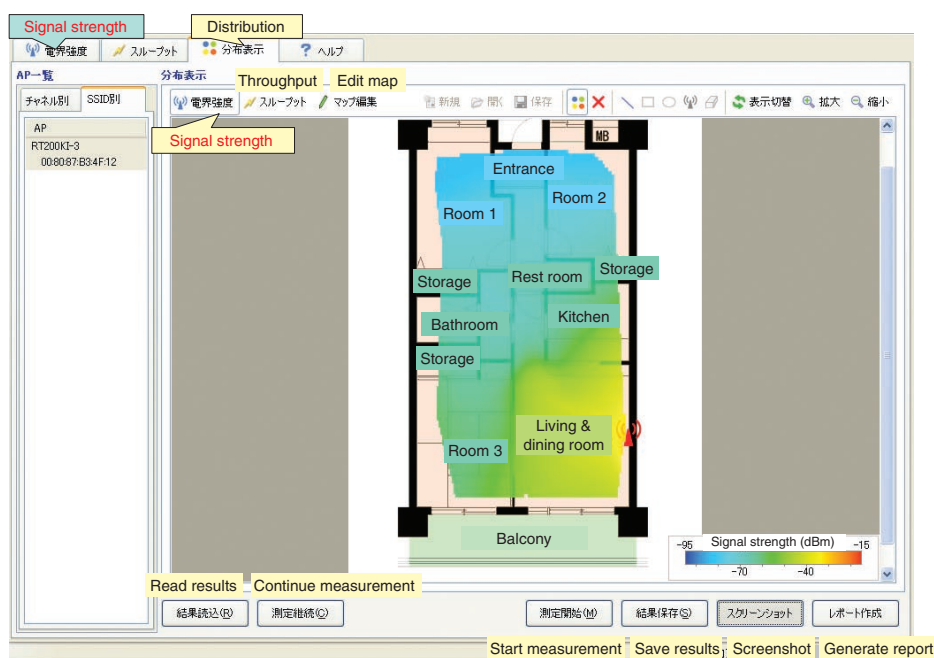

Fig. 3. Distribution-chart measurement function.
3) The distribution display function can be used to measure the signal strength and throughput of any AP and create a distribution chart. This lets the user determine an area that provides sufficient signal strength and throughput and supports good communications (Fig. 3).